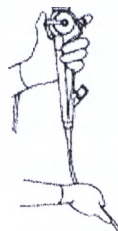

Fig.5
1. Intubationscope is designed for use with the left hand as shown in the figure. Take the Intubationscope in your left hand so that the thumb was on the angle adjustment knob of distal end, and the index finger of his left hand was on the suction valve, direct the insertion tube part with right hand as shown in Fig.5.